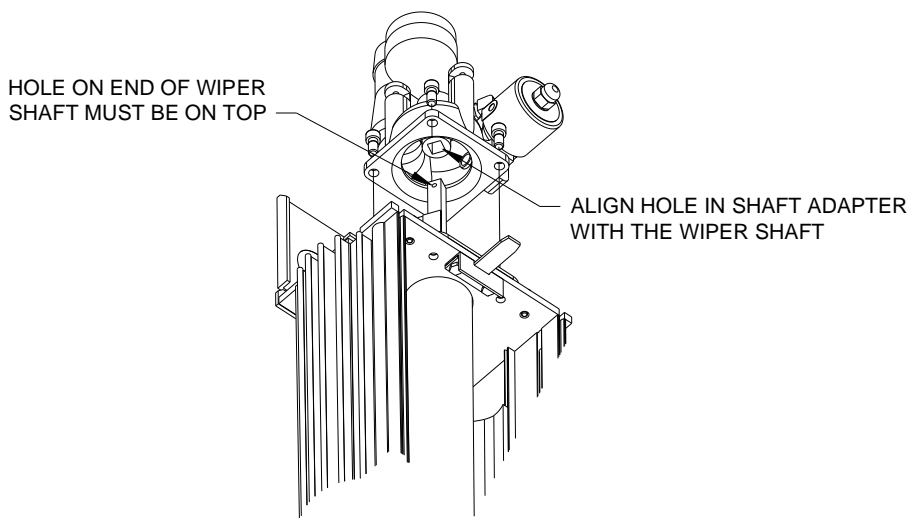

Figure 4E
Step 3: Once the quartz is clean, reassemble the unit (see Figure 4E). Replace any seals that appear to have been damaged.
Step 1: Replace the wiper assembly (12) carefully in the quartz sleeve. The hole on the end of the shaft must be up. Turn the wiper assembly counter-clockwise (looking from the top) as it is being inserted into the quartz – this will make the task easier and align the wiper blades properly. Wetting the inside of the quartz with water will also make the task easier.
Step 2: Ensure the quartz O-ring seal is in place around the quartz sleeve and then replace the top quartz seal assembly by aligning the shaft adapter with the wiper shaft (see Figure 4E). Rotate wiper shaft to suit.
Step 4: Reconnect the flexible hoses (8), both top and bottom. Close the front panel.